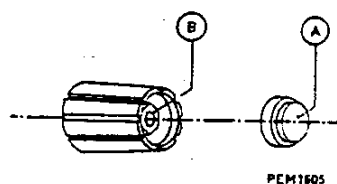

Fig. III-1. Removing the knobs
B. REMOVING THE KNOBS (see Fig. III-1)